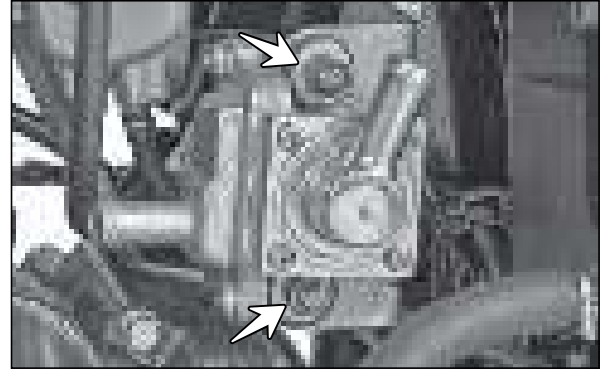

Fig. 4.49
- Remove hexagonal bolt (M6x30 - 2 Nos.) from secondary air injection valve mounting and take out the valve along with punched washers (2 Nos.). (Fig. 4.49)